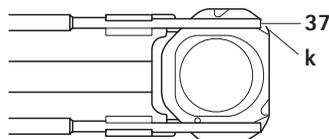

Fig. 23 Anchoring rods engage securely in recesses
- ▶ Pull back the anchoring rods **36**. When doing so, ensure that the anchoring rods engage securely in the recesses **k** on the posterior side of the plate, see Fig. 23.